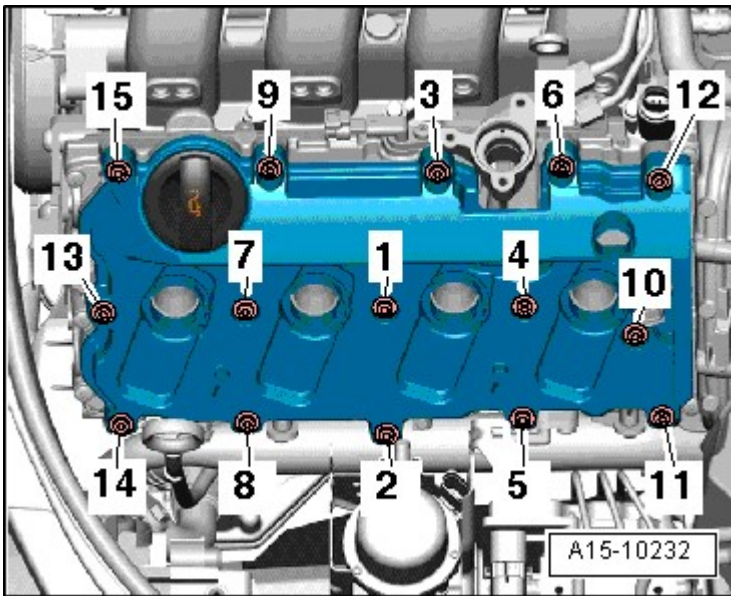
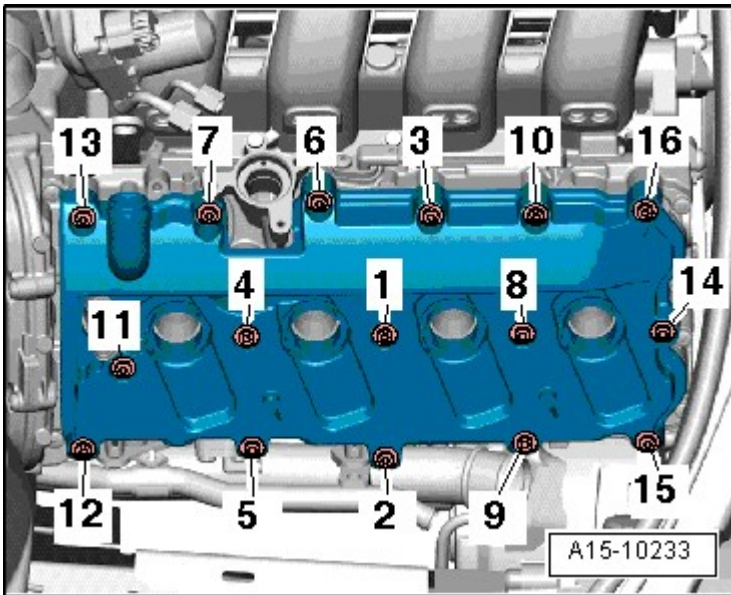

Fig. 13: Identifying Left Cylinder Head Cover Bolts Removal Sequence
Fig. 14: Identifying Right Cylinder Head Cover Bolts Removal Sequence
- Tightening specifications and sequence, refer to: Left cylinder head cover **Fig. 13**, right cylinder head cover **Fig. 14**